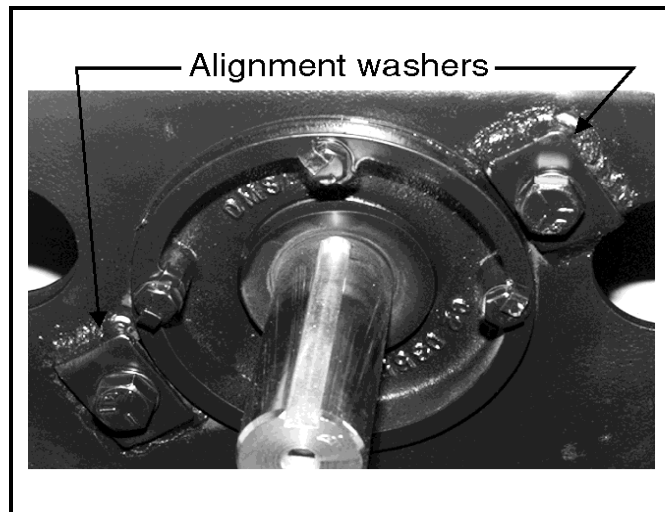

FIGURE 4 (MSSM0708BE)
NOTE 2: 30015M6 models are equipped with a rear reinforcing plate (see FIGURES 4 and 6). Use 30020 and 30022 instructions when removing and installing the bearing housings on these models.
2. Remove the bearing housing from the frame. Remove plate and grind off the alignment washers (as shown in FIGURE 4). and discard old alignment washers.